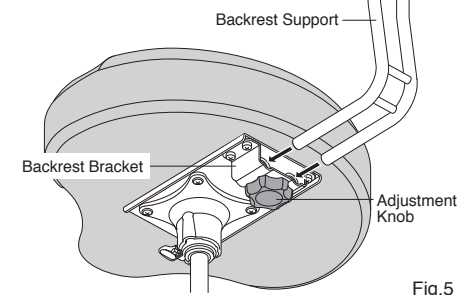

Fig. 5
BACKREST ATTACHMENT (Fig. 5, 6) (D-3500BR ONLY)
1. Loosen the Adjustment Knob on the Backrest Bracket and insert the Backrest Support as shown (Fig. 5).
2. Slide the Backrest Support to the desired position and tighten the Adjustment Knob (Fig. 5).